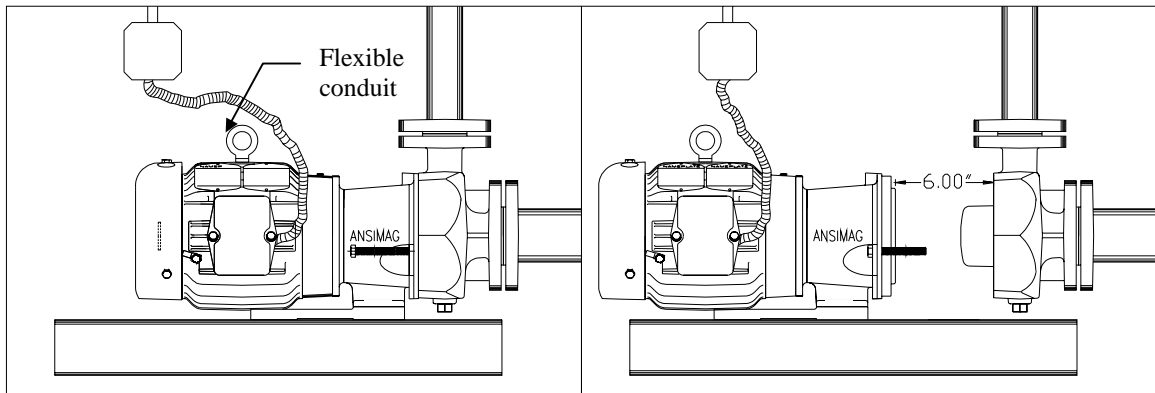

Figure 5-3: Flexible electrical connection on motor.
3. The motor electrical wiring should include a flexible section near the motor to allow movement of 6" [150 mm] for servicing of the pump without disconnecting piping. The recommended installation is illustrated in Figure 5-3.